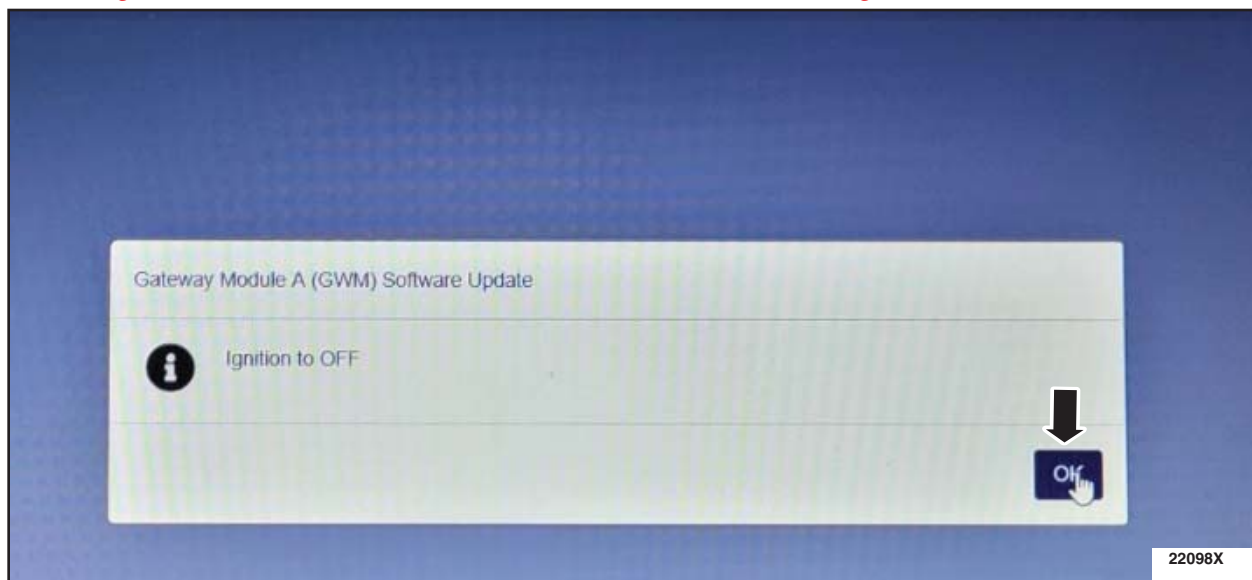

FIGURE 22
26. Turn ignition to off and click the OK icon on the FDRS screen. See Figure 22.